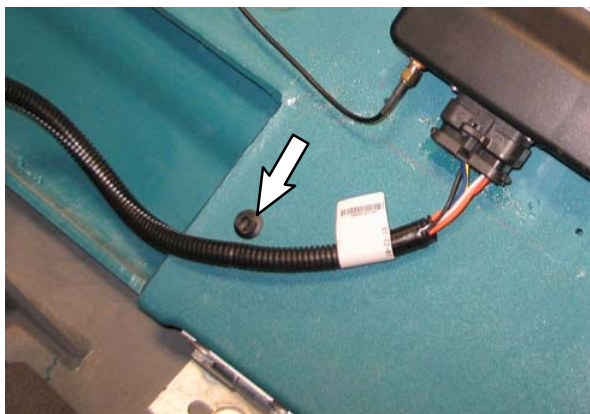

FIG. 13
12. Drill another 6.35 mm hole into the inner surface near the bottom of the front shroud, near the hinge. **Do Not** drill into the front surface of the front shroud. (Fig. 13)